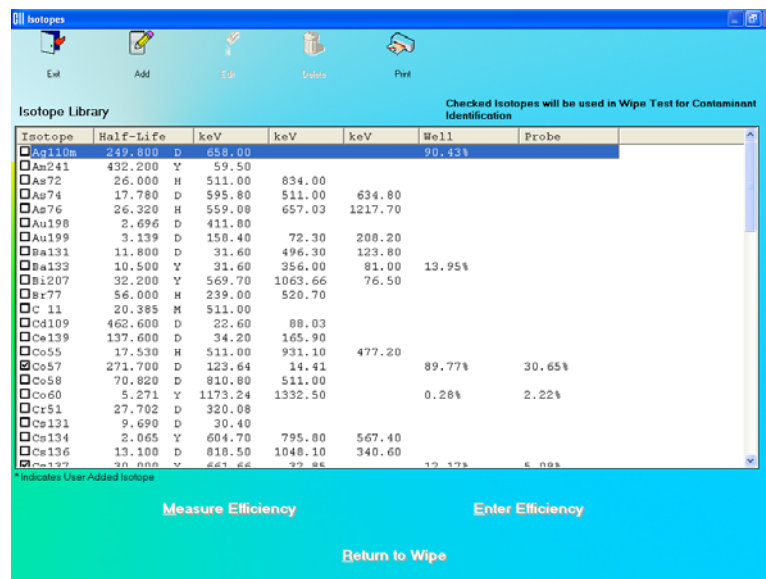

Figure 8-4 Isotope Library Screen
1. Click the  icon to view the Isotope Library. Figure 8-4 Isotope Library Screen will appear. A list is shown of isotopes with their half-lives, peak energies and the Well and Probe efficiencies for each isotope, if available.
- To select the isotopes to be detected in the Wipe Test, click in the check box to the left of the isotope name in the **Isotope Library** box on Figure 8-4 Isotope Library Screen as shown. A check should appear in the check box to indicate the isotope has been selected. The isotope can also be selected by first highlighting the desired isotope by clicking and then double-clicking anywhere in the grid to place a check in the box. To deselect an isotope, click in its check box again or double-click anywhere in the grid while the desired isotope is highlighted and the check will be removed from the check box. Select all the isotopes you would like to be identified by the Wipe Test.